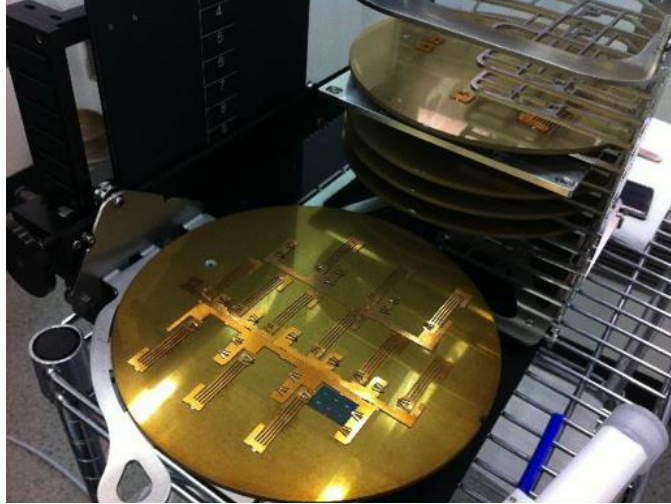
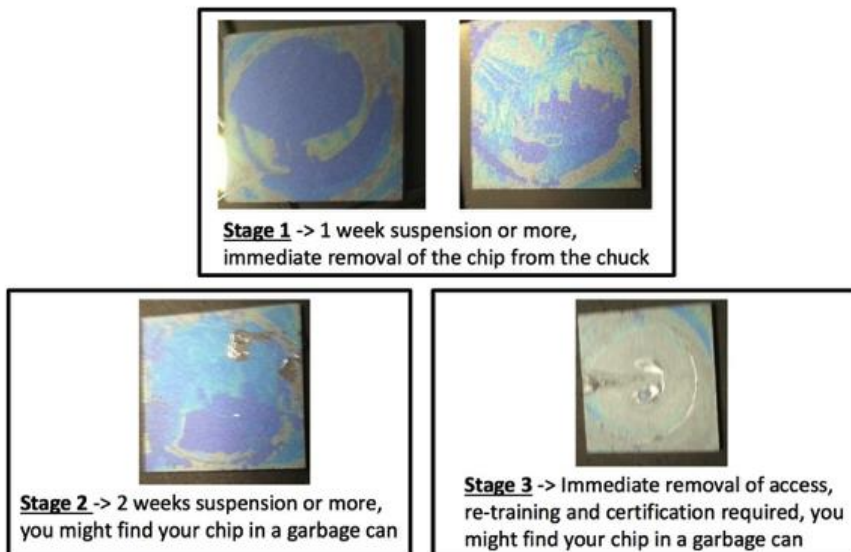

Figure 4. Chuck 9 Extracted from the cassette; a total of 10 slots are available for use.
Figure 5. Examples of not cleaned backside and corresponding suspension periods.
- 1.4. Once the airlock is at room pressure, you will see on the bottom left corner of the screen a message saying that the airlock has been vented. You can now lift carefully the lid of the airlock using two hands. Grab the handle and plug it in the four slots on the chuck tray (the small handle-lock must be on the left side). Make sure that the handle is well fixed, lift the tray and place it on the table, plugging the three pins at the bottom in the three holes on the stage (the small handle-lock must face towards you). Close the lid. Be aware of the chuck that you intend to use and extract it from the tray. Load your sample in the appropriate space according to its dimensions. Do not use the lid of the airlock as a loading stage – no pressure should be put on it. Make sure not to use the 11th chuck. Commonly, the 9th chuck is used (Figure 4), where you can find slots where to load your samples of different dimensions: six 2 cm-slots (three on the left column and the other three on the right column), three 1 cm-slots (central column) and three 0.5 cm-slots (central column). The backside of the sample you are going to load must be clean. Use a Q-tip soaked in acetone to remove residues of resist and bake it on a hot plate. PMMA, EL copolymer and HSQ are the only **Load** your sample. The sample must have a clean backside and must have been baked. For other kind of resists, check with the superusers. If you fail to do so you might incur in a period of suspension (Figure 5). Use two tweezers, one to hold the sample, one to slightly move the clip while sliding the sample in from a side. Assure that the sample is well fixed and touches the metal borders of the chuck. Make sure that the bottom of the sample is clean and the sample lies flat.